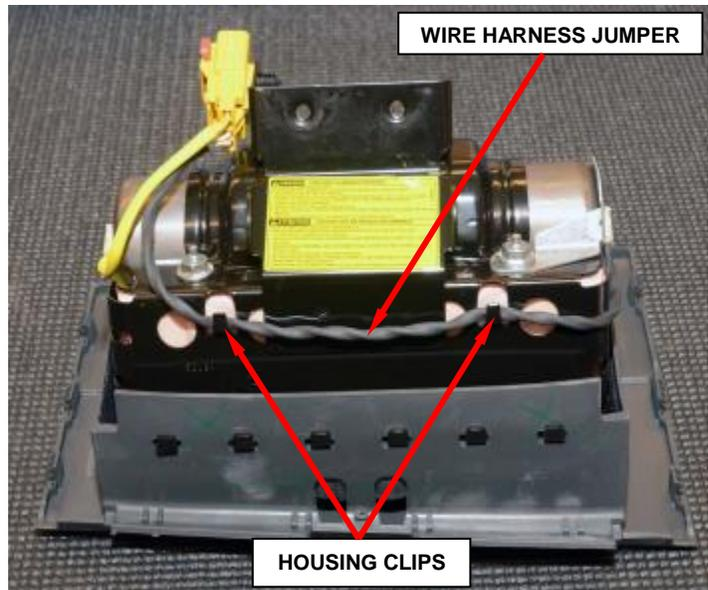

Figure 53 – Passenger Airbag Assembly
- b. Disengage the wire harness jumper from the housing clips in two places (Figure 53).
- l. Engage the wire harness jumper under the housing clips in two places (Figure 53).